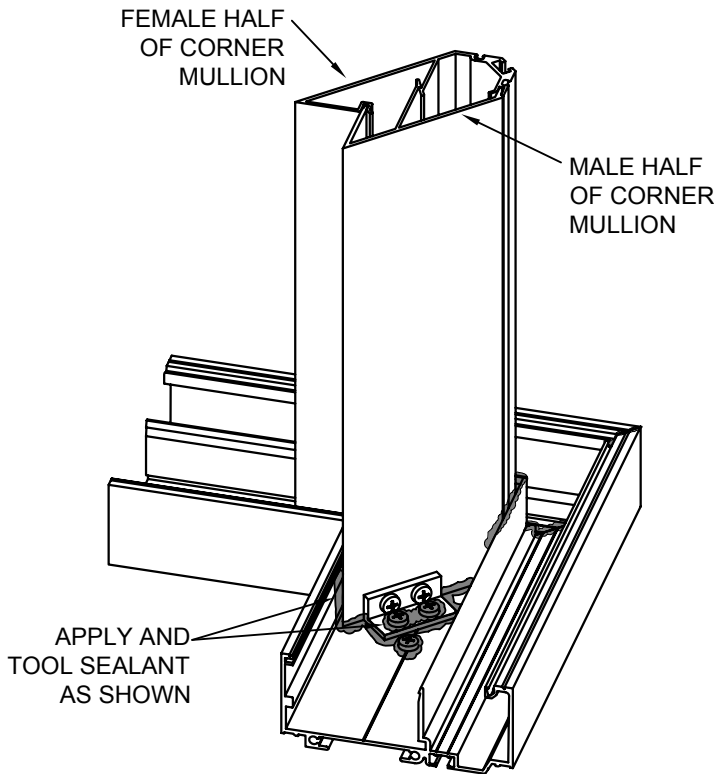

FIGURE 2
- STEP C:** Install male half of dart corner mullion. (Figure 2)
- STEP D:** Locate angle clips at bottom of each side of dart corner mullion. Match drill holes and fasten with supplied screws. (Figure 2)
- STEP E:** Apply sealant to corner where the mullion meets the receptor. Seal over heads of angle clip fasteners. Tool all sealant. (Figure 2 and 3)